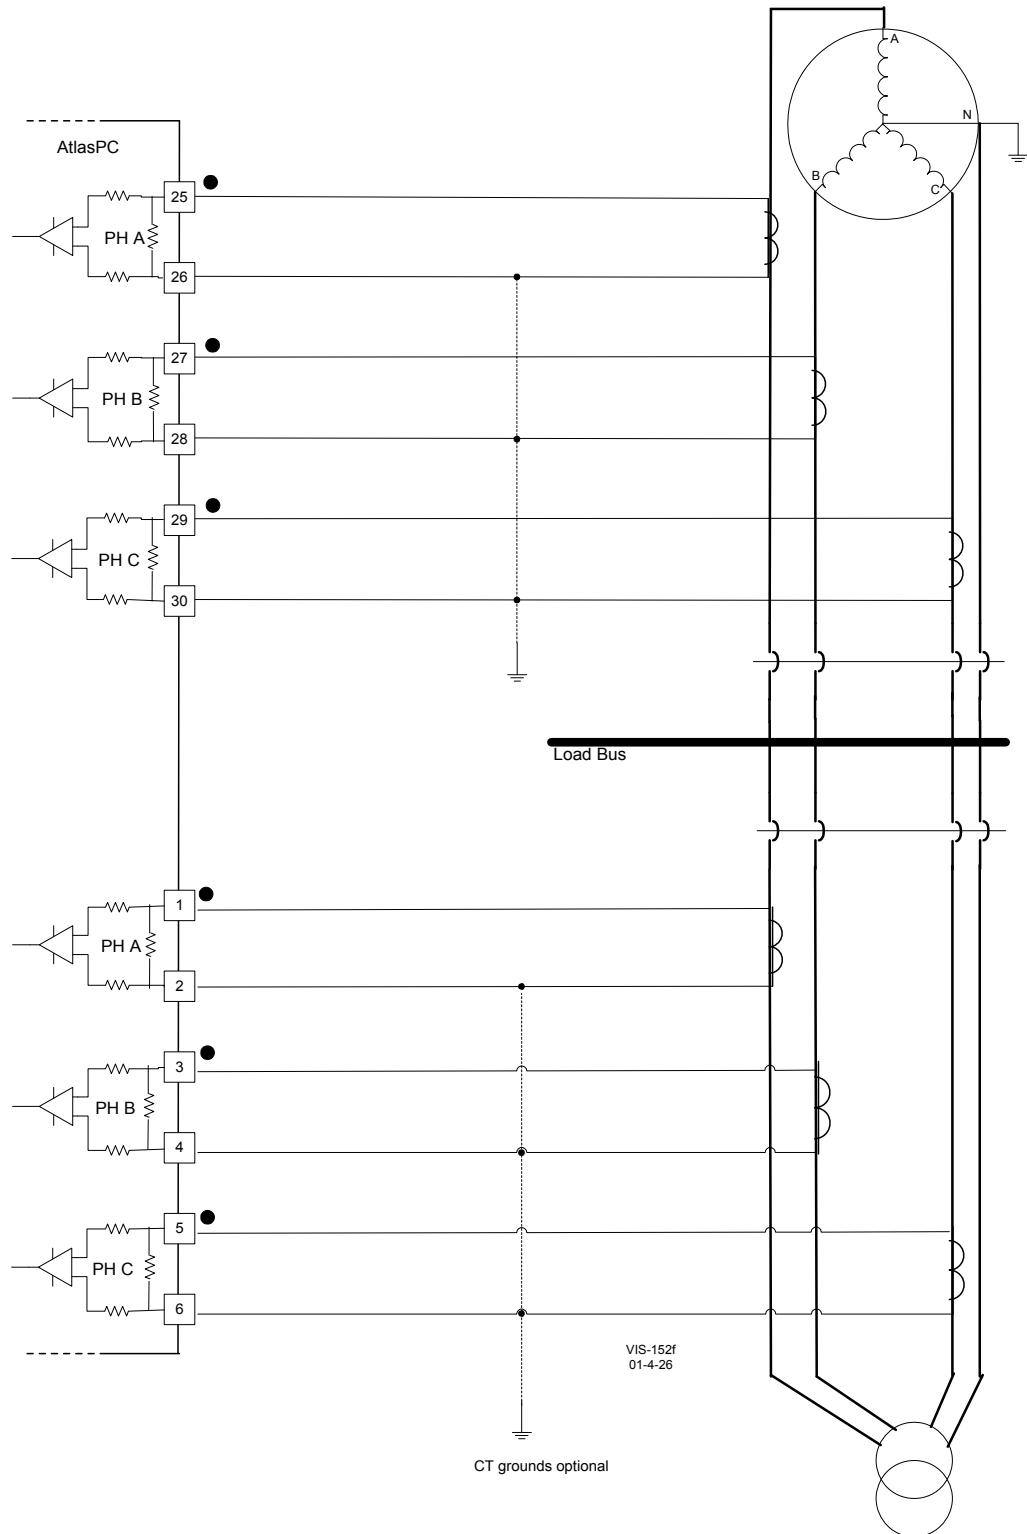

Figure 8-9. Wiring Example—CT Interface to the PowerSense Board
- Refer to Figures 8-9 and 8-10 for CT wiring.